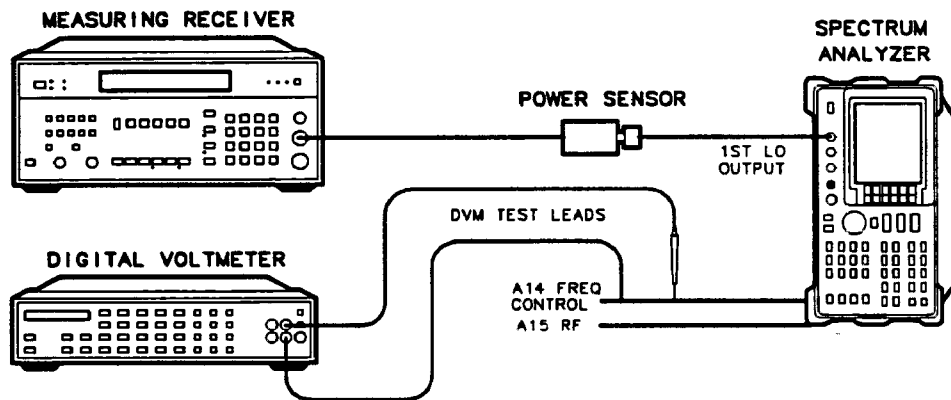

Figure 2-9. 1st LO Distribution Amplifier Adjustment Setup
3. Connect the positive lead of the DVM probe to pin 15 of A14J18. Connect the DVM ground lead to pin 6 of A14J18. See Figure 2-9.